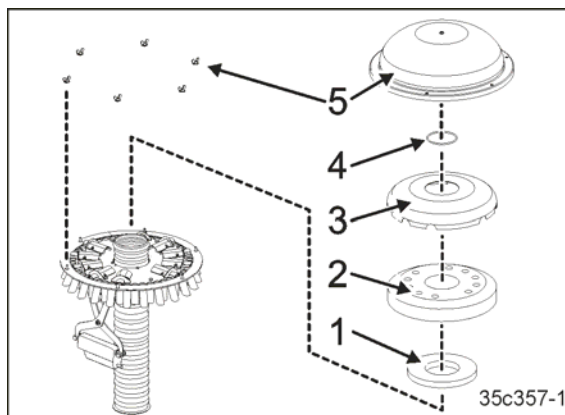

Fig. 193
15. Install the foam insert (Fig. 193/1) and sealing ring (Fig. 193/2).
16. Install the inner distributor cover (Fig. 193/3).
17. Install the ring (Fig. 193/4).
18. Install the outer distributor cover (Fig. 193/5).